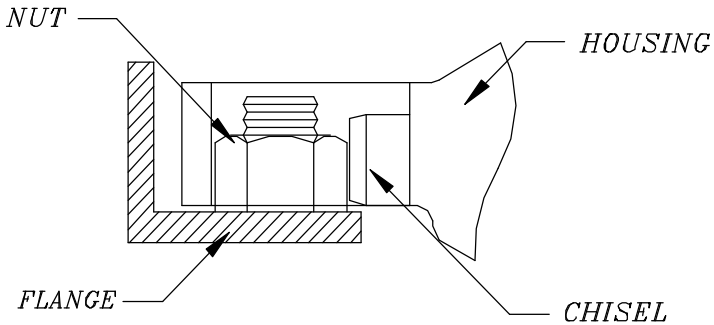

Figure 11
3. Extend the chisel slowly until it makes contact with the nut face. Check that the chisel is resting squarely on the center of a nut flat. See *figure 11*.